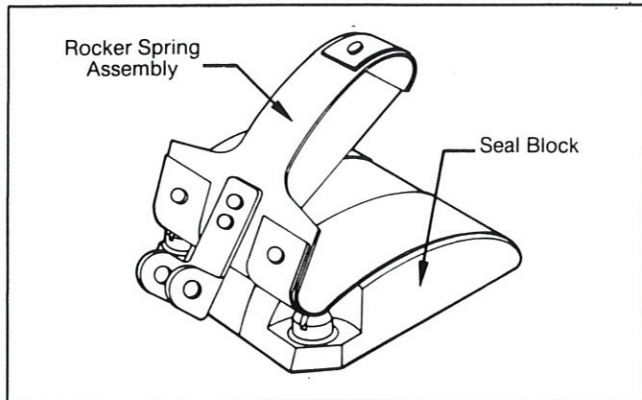
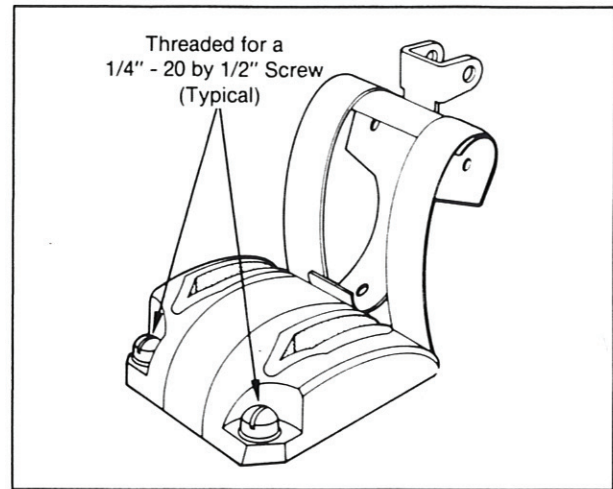

Figure 1 — Valve Assembly
Figure 2
**Caution:** The valve assembly is spring loaded and has a tendency to "snap" open by itself, as going from the position shown in Figure 1 to the position shown in Figure 2. Therefore, when the third screw is removed, be sure to hold the valve assembly so it will remain in the position shown in Figure 1. Remove the valve assembly from the head.
4. Tip the rocker spring as shown in Figure 2. The center band will become relaxed. Make sure the rivet is free from the slotted opening of the center band.